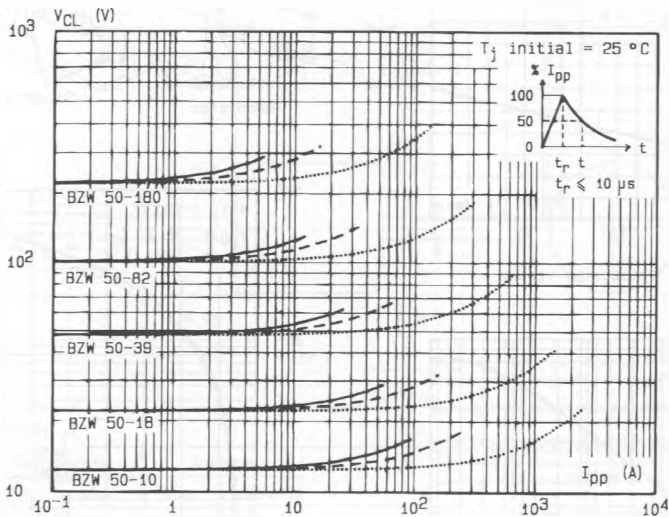

Fig.2 - Clamping voltage versus peak pulse current.
Note : The curves of the figure 2 are specified for a junction temperature of 25 °C before surge. The given results may be extrapolated for other junction temperatures by using the following formula : $\Delta V (BR) = \alpha T (V(BR)) \times [T_j - 25] \times V(BR)$